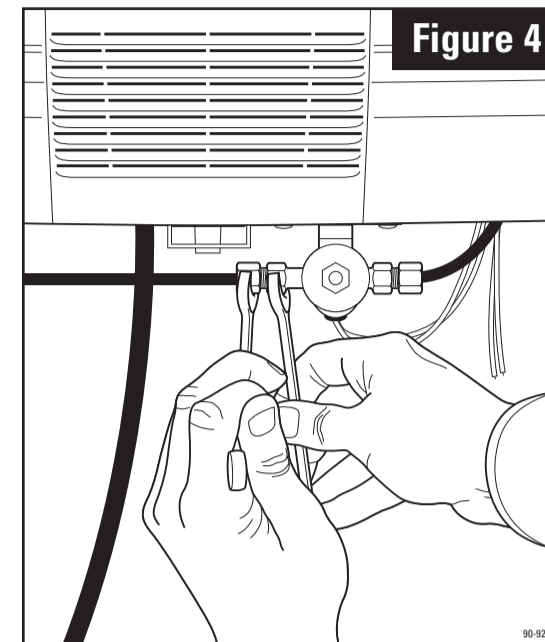

Figure 4
**9.** Connect tubing from the saddle valve to the inlet side of the solenoid valve using 1/4" O.D. copper tubing (not furnished). **DOUBLE WRENCH TO PREVENT LEAKING!** (See Figure 4)